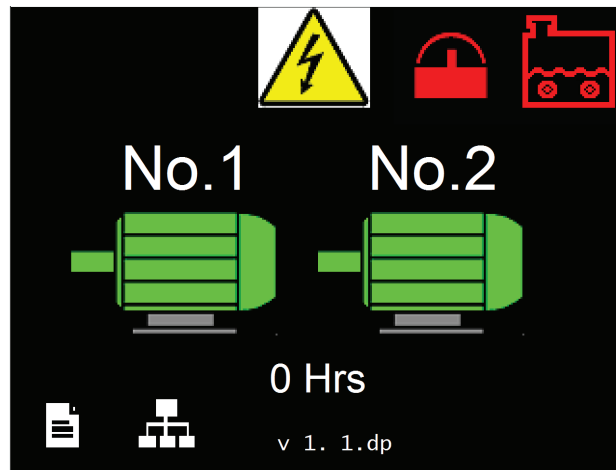

Figure 7.23 - Motor 1 and 2 Running
- » Then motor No.2 starts to flash green, when fully running will change to steady green, Figure 7.23.